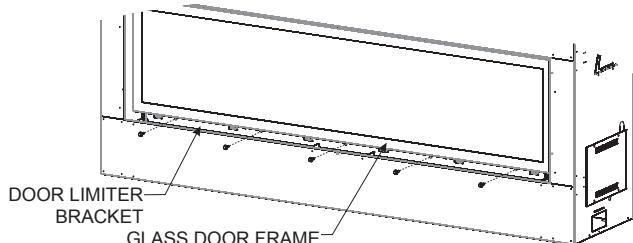

Figure 99
Before the Glass Door can be removed, a Door Limiter Bracket must be removed. Using a 5/16 inch hex nut driver, remove (3) #10-24 x 3/8 inch screws that retain the Limiter Bracket to the bottom flange of the Glass Door frame, and set the bracket aside. **See Figures 99 and 100.**
Refer to **Figures 99 and 100** to install the glass door assembly. Because of the width of the door assembly, it is recommended that two people install it. Hold the door at an angle so the bottom is about 8 inches from the fireplace face. Engage the top slots in to door frame with the tabs located at the top of the firebox. Gently pivot the door inward to align the four bullet catches across the bottom of the door frame. Once the bullet pins are aligned with the spring catches on the door frame, push the bottom of the door inward to engage the spring catches with the bullet pins.